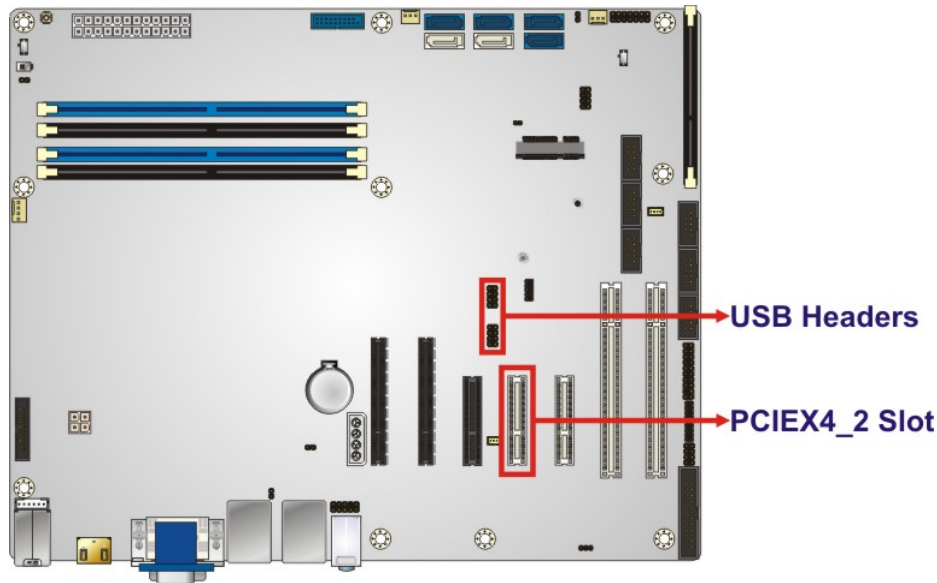

Figure 4-14: PCIEX4_2 Slot and USB Header Locations
Step 1: Install the expansion card to the **PCIEX4_2** slot on the motherboard. Align and insert the PCIe edge connector on the bottom of the expansion card to the **PCIEX4_2** slot (**Figure 4-14**) on the IMBA-C2360-i2. Then, push down gently on the expansion card to make sure it is firmly inserted into the **PCIEX4_2** slot.
Step 2: Connect the included USB cables to the expansion card and motherboard. Connect the two included USB cables to the USB headers (USB1 and USB2) on the expansion card and motherboard (**Figure 4-14**).